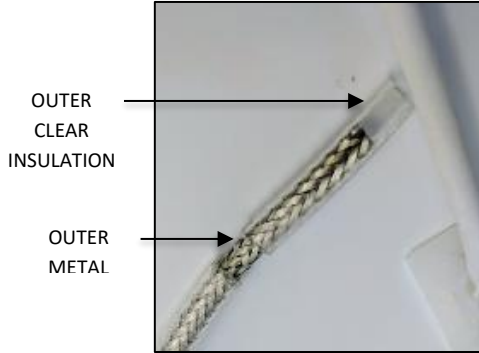
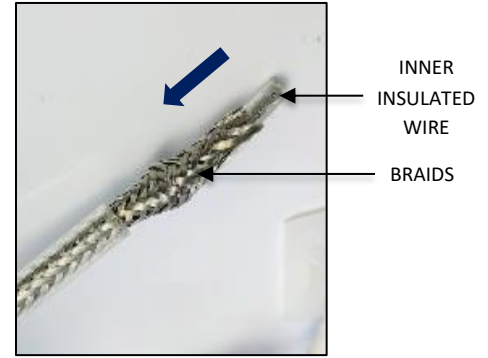

FIG. 18
FIG. 19
1. Strip off 1.00" of outer clear insulation exposing the outer metal braiding as shown in FIG. 18 below. Be careful not to cut or damage the outer metal braiding. Gently push braiding down to loosen the individual braids exposing the inner insulated wire as shown in FIG. 19 below.